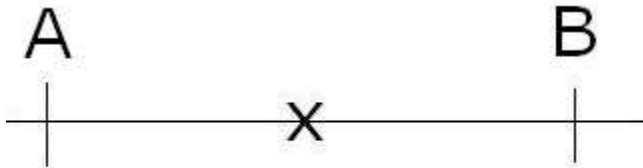

Figure 4: Point A and B are marked at equal distances from the origin
- 3) Using the string as a compass, anchor one end to the origin. Using the chalk, mark off equal lengths on either side of the origin (Figure 4).